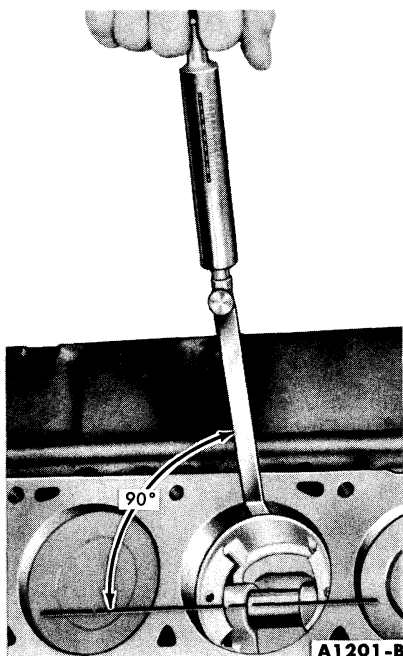

FIG. 42—Checking Piston Fit
7. Hold the piston and slowly pull the scale in a straight line with the ribbon, noting the pull required to remove the feeler ribbon (Fig. 42).